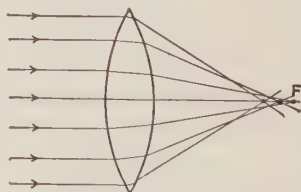

FIGURE 618. — SPHERICAL ABERRATION.
**427. Defects of Other Lenses.** — Theoretically, it would appear that all light that reaches a lens along a path parallel to its principal axis should converge at the principal focus of the lens. Actually, the light fails to be focused at a single point. The light falling upon the edges of the lens converges at a point nearer to the lens than that which falls upon the middle (Figure 618). This unequal focusing by the lens is known as *spherical aberration*. In a camera, light is excluded from the outer portions of the lens by a diaphragm, to avoid spherical aberration.